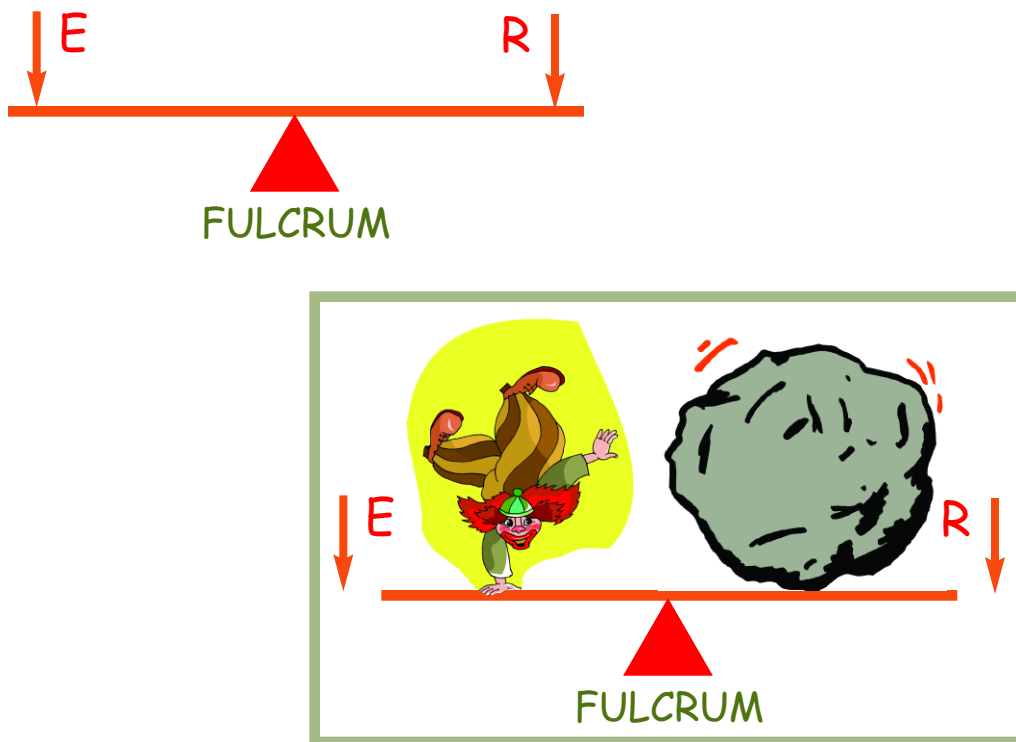

Figure 1 First Class Lever
First class lever (EFR)- The *Effort (E)* and *Resistance (R)* are located on opposite sides of fulcrum as shown in *Figure 1: First Class Lever* below. Examples of a first class lever include pry bars, see saws, crowbars.